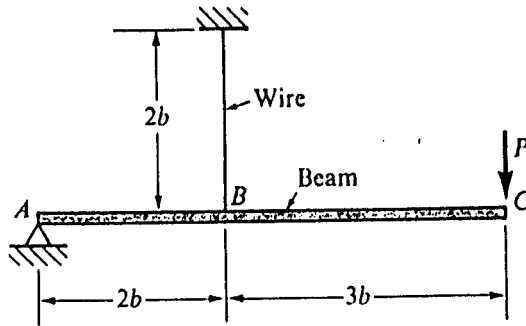

Figure 3
3. A steel beam ABC is simply supported at A and held by a high-strength steel wire at B (see figure 3). A load $P=240$ lb acts at the free end C. The wire has axial rigidity $EA=200 \times 10^3$ lb, and the beam has flexural rigidity $EI=20 \times 10^6$ lb-in.² If $b=10$ in., what is the deflection δ_c of point C due to the load p ?